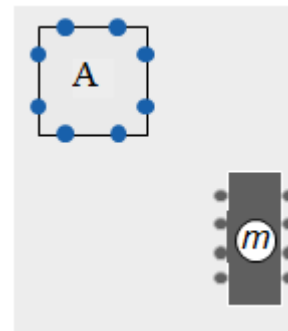

FIG 4B
- 4B. What is the objective of pin assignment? Perform the method of topological pin assignment between the main component 'm' to an external block 'b' as shown in FIG. 4B.